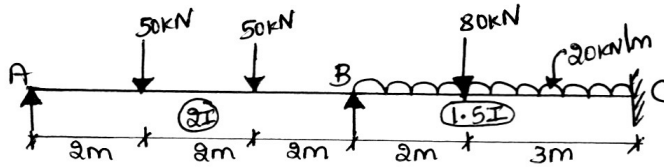

Fig. Q4.a
- 4 a. Analyze the continuous beam shown in Fig. Q4.a by Kani's method. Draw shear force diagram and BMD.